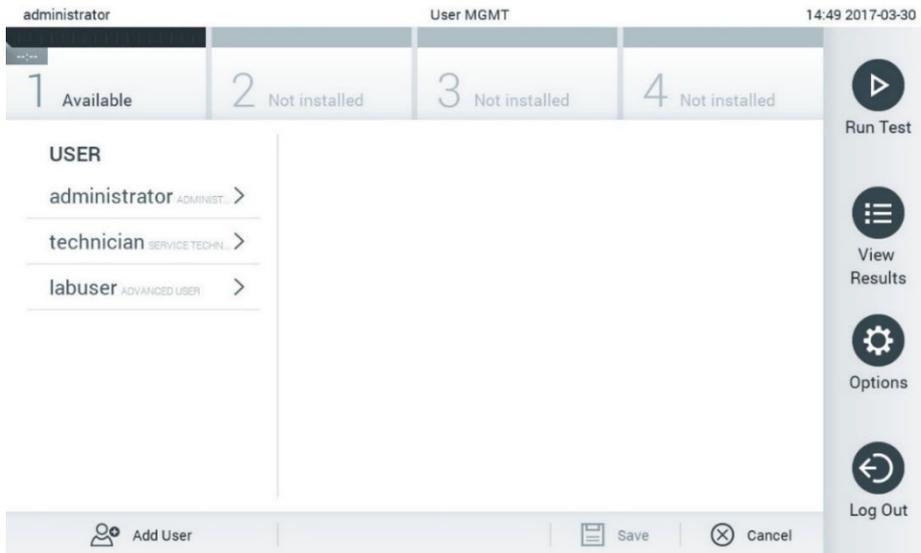

Figure 59. The User Management screen.
1. Press the **Options** button and then the **User Management** button to configure users. The **User Management** screen appears in the content area of the display (Figure 59).